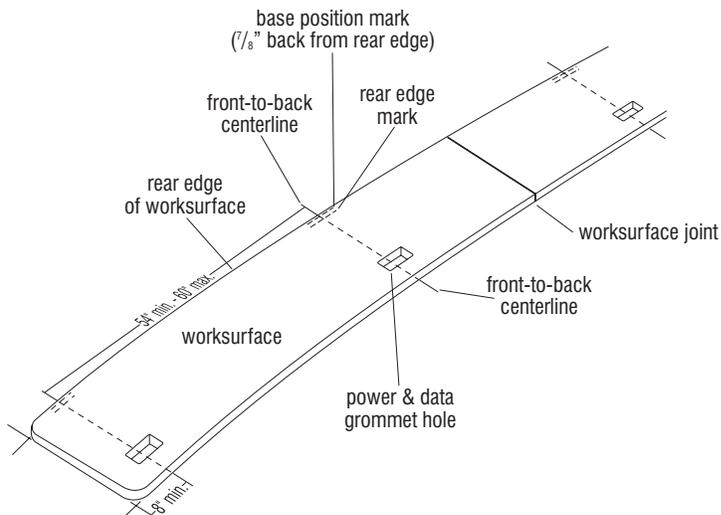
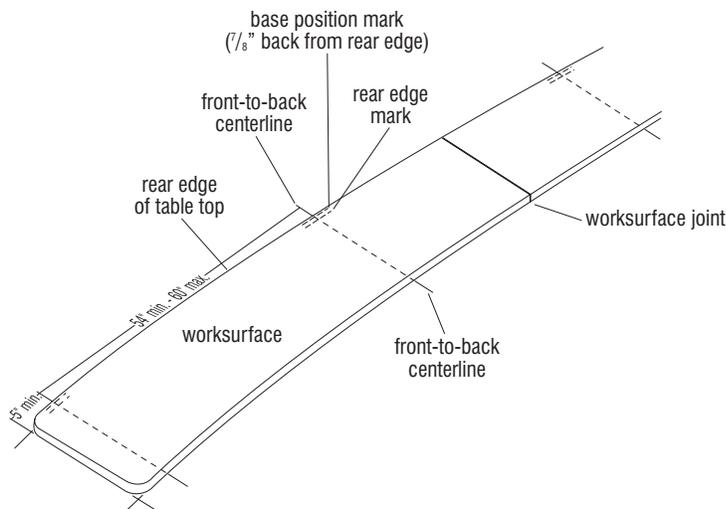

Figure 1a - University Worksurface with PowerUp
Figure 1b - University Worksurface with Undersurface Power & Data or No Power & Data
1. Refer to the space-planning layout and the identification numbers on the underside of the worksurfaces. Position worksurfaces on the floor, top side up, at the location that they will be installed later (Figure 1a or 1b).
Note: When installing University Select Seating with the PowerUp module(s), the front-to-back centerlines will run through the center of the power & data holes in the worksurfaces (Figure 1a). When installing University Select Seating with RPT module(s) & data, or no power, use space-planning layout and see Figure 1b.
2. With the worksurfaces properly laid out on the floor, refer to the space-planning layouts to determine the front-to-back centerline locations for mounting of base flanges. Mark the front-to-back centerline location for each base flange onto the floor at the front and rear edge of the worksurfaces (Figure 1a or 1b).
3. At the rear edge of the worksurfaces, make a 5" to 6" long mark onto the floor along the rear edge of the worksurface, across the front-to-back center line as illustrated. Then copy this mark back 7/8" behind the worksurface edge and disregard the rear edge mark you made first. The intersection of the new base position mark and the front-to-back centerline mark will aid in centering the base flange of the University base to mount the bases to the floor in step 5 (Figure 1a or 1b).